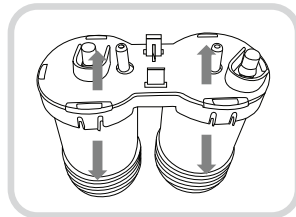

Fig. 9
8. Remove the Transparent Filter Holder by lifting the small hooks and replace the existing Filters for the new ones (Fig. 9).